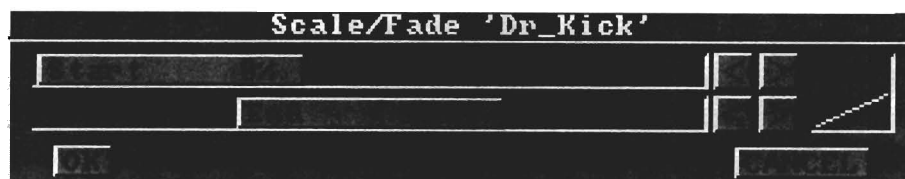

Figure 4. Scale Selector
6. A Select Scale Requester will appear. To fade in, change **Start** to 0%, and **End** to 100%. Figure 4. To fade out you would set Start to 100% and End to 0%.